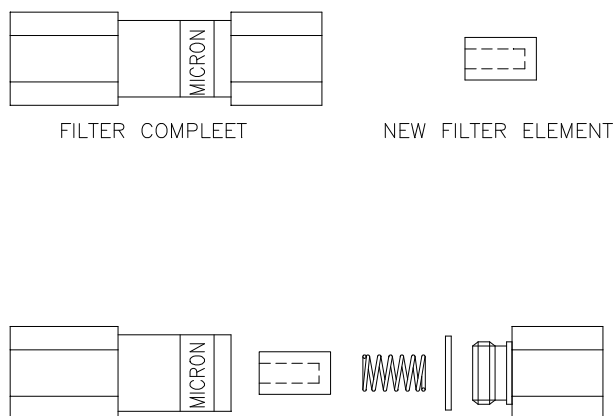

Figure 9-1 Disassembly of particle filter
Particle filters are mounted in the inlet sections of the sample conditioning systems (item 16, Figure 6-1). These filters contain a sintered filter element $2\mu\text{m}$. To replace the filter element first make sure the sample connection to the applicable sample stream is shut off. Remove the sample connection at the filter's inlet side. The filter can be removed by turning it out of the blocking valve. The filter body exists of two parts screwed together. By loosening the two parts the filter element becomes visible and can be replaced. (see Figure 9-1). Re-assemble the filter and replace the old Teflon tape on the NPT connections. Make sure the first pitch is free from tape as excessive tape might be cut-off when the filter is reassembled and will then clog-up the system. Re-connect the filter to the closing valve and to the stream inlet connector. Always check for possible leakage after filter replacement. When finished the system must be flushed for a number of analyses to remove any air from the system.